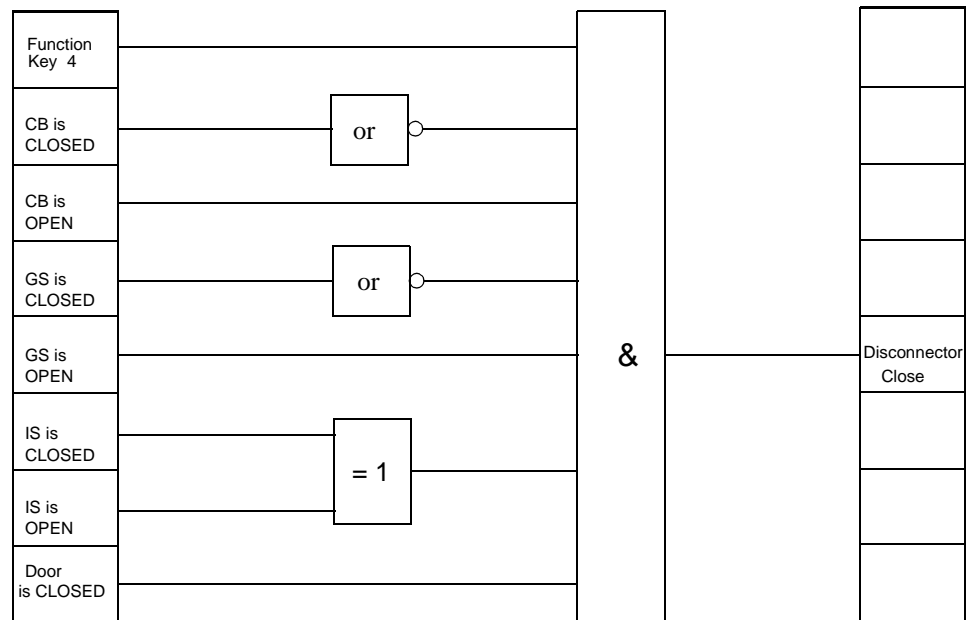

Figure 5-43 Interlocking an Disconnect Switch as an Example of a User Defined Interlock Protective Function
Interlocking logic (see Figure 5-43) is to be implemented for the operation of an isolating switch using function key 4. The user must take the switch position indications of the corresponding isolation switch and the grounding switch into account. The CLOSE and TRIP indications from the auxiliary contacts of each switch are used.
- The CLOSE indications from the circuit breaker (CB) and from the grounding switch (GS) are supplied to the inputs of the NOR functions.
- The OPEN indications from the circuit breaker (CB) and from the grounding switch (GS) are supplied to the inputs of the AND function.
- The switch position indications from the disconnect switch (IS) are linked to the inputs of the XOR function.
- Function key 4 is linked with an input of the AND function.